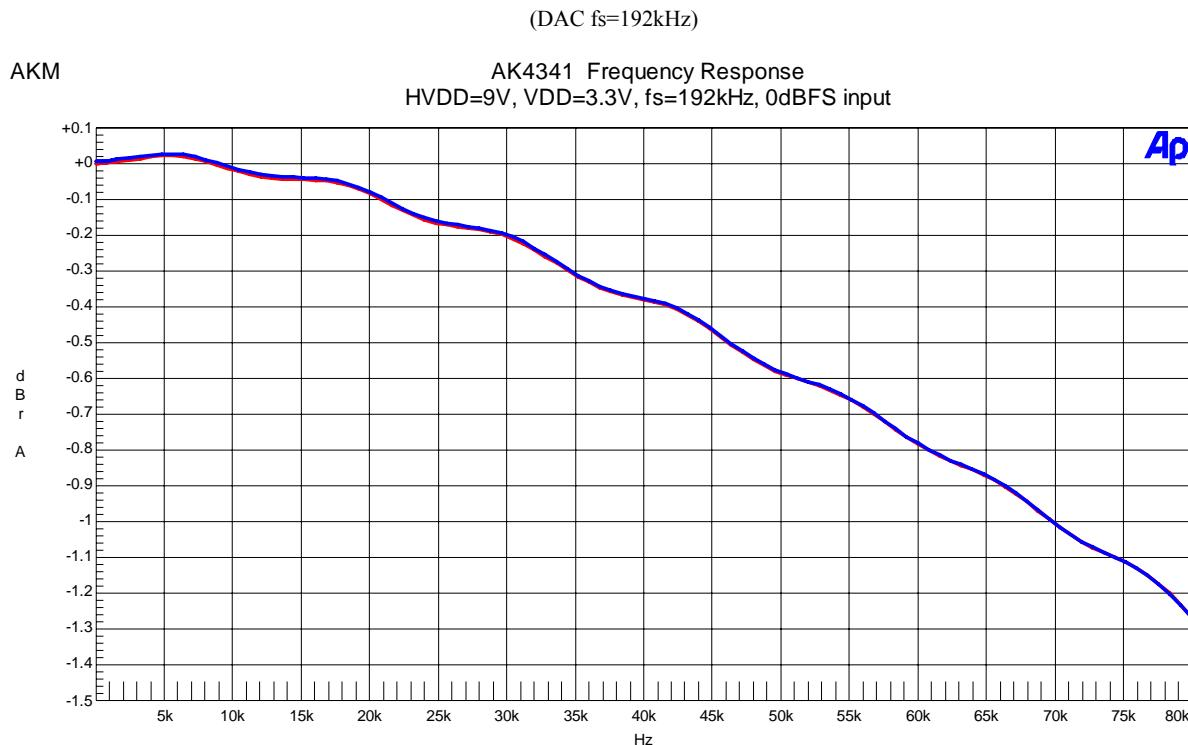

Figure 35. Frequency Response (Input Level=0dBFS)
- Figure 35. Frequency Response (Input Level=0dBFS)